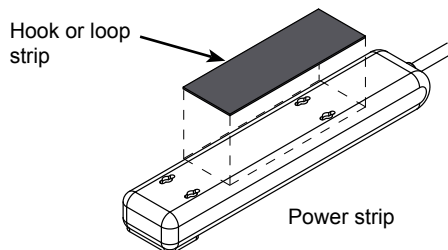

Figure 2A
2. Attach the power strip inside the unit to the base panel or one of the side panels using the self-adhesive hook and loop strips. **Figure 2A**.